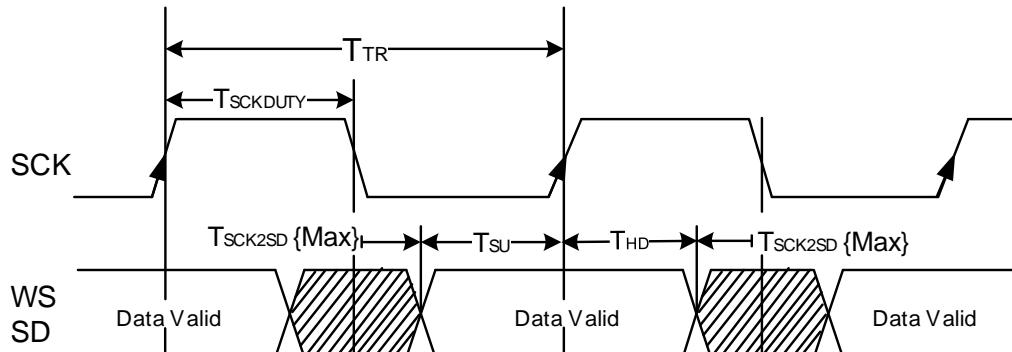

Figure 4.7. I2S Output Timing
**Note:** Refer to Figure 4.7 on page 27.